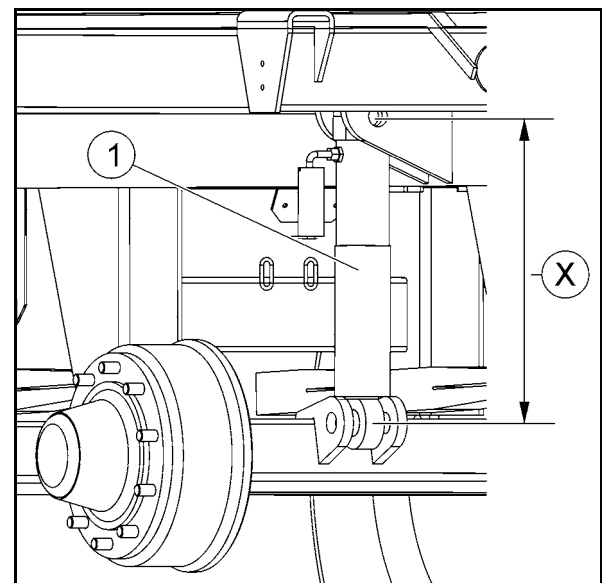

Fig. 43
Set the distance $X = 600$ mm between the locating points of the hydraulic cylinders (Fig. 43/1) one after another on the right-hand and left-hand vehicle side:
6. Hold the operating element at the tractor's control device for the levelling valve in "Lift" position until the distance between the locating points of the hydraulic cylinders (Fig. 43/1) is $X = 600$ mm.